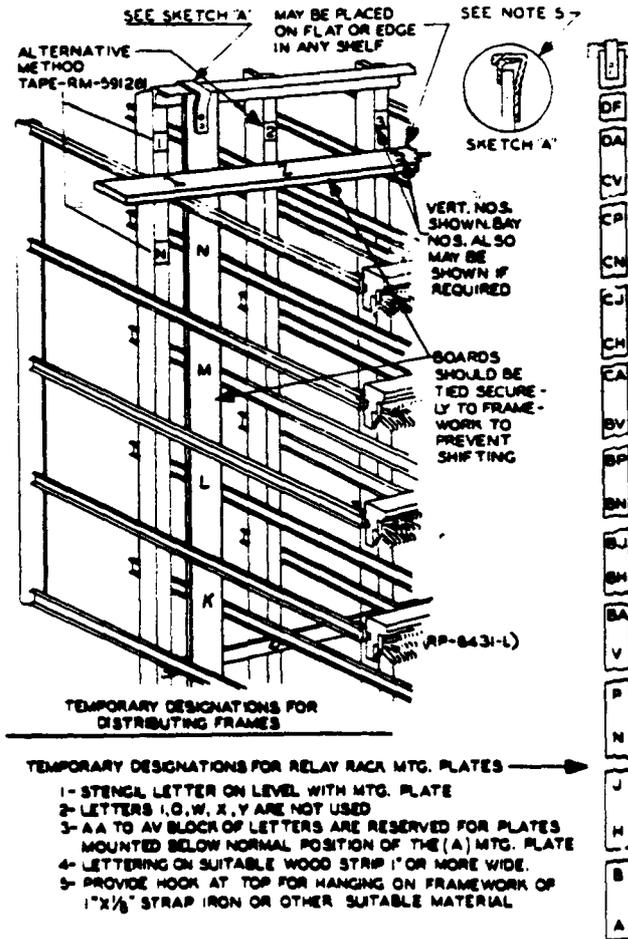

FIG. 1 TEMPORARY DESIGNATIONS AT DISTRIBUTING FRAMES AND RELAY RACKS (PAR. 3.42)
3.42 Temporary equipment location designations, such as those illustrated in FIG. 1 for distributing frame verticals and shelves, and for relay rack mounting plates, will be found advantageous on new jobs and on large additions, for quickly locating the position of cable terminations.